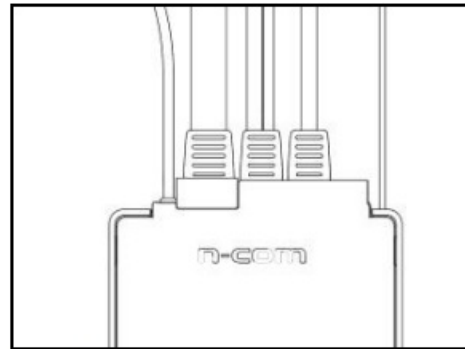

Fig. 38
- Gently position the connector in its seat until it is all the way in (Fig. 38).